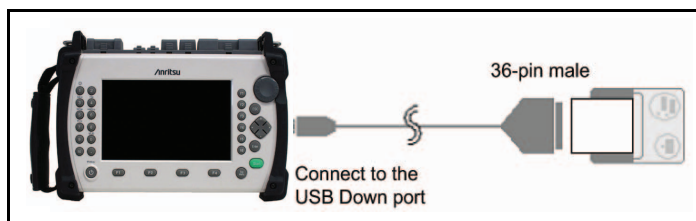

Figure 4-44: Connecting the BL-80R11 Printer
1. Connect the BL-80R11 or SD1-31 printers to the MT9083 Series as shown in Figure 4-44, and then power up the printer.